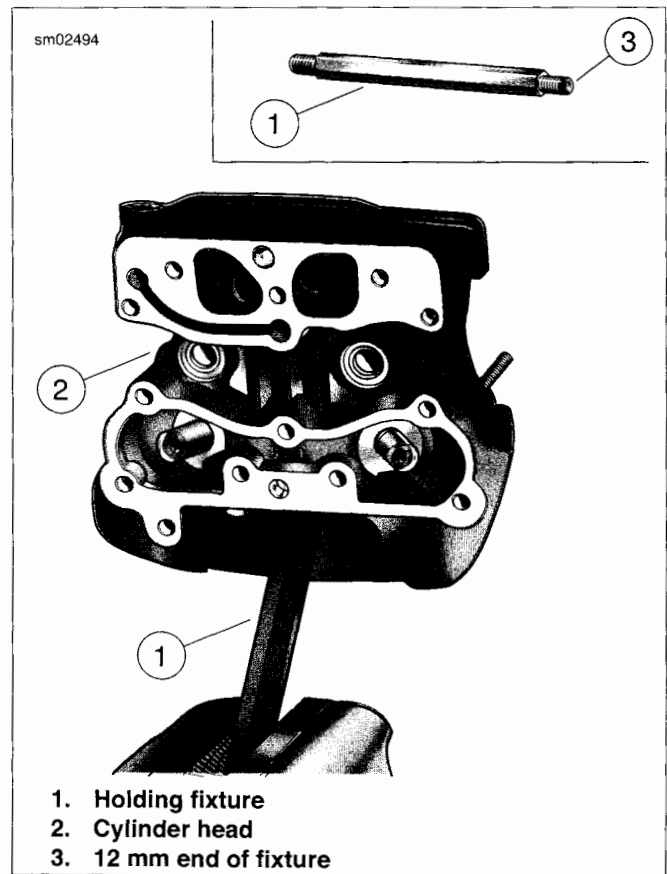

Figure 3-97. Cylinder Head Holding Fixture
2. See Figure 3-97. Secure cylinder head for service.
- a. Thread 12 mm end of CYLINDER HEAD HOLDING FIXTURE (Part No. HD-39786) (1) into cylinder head (2) spark plug hole.